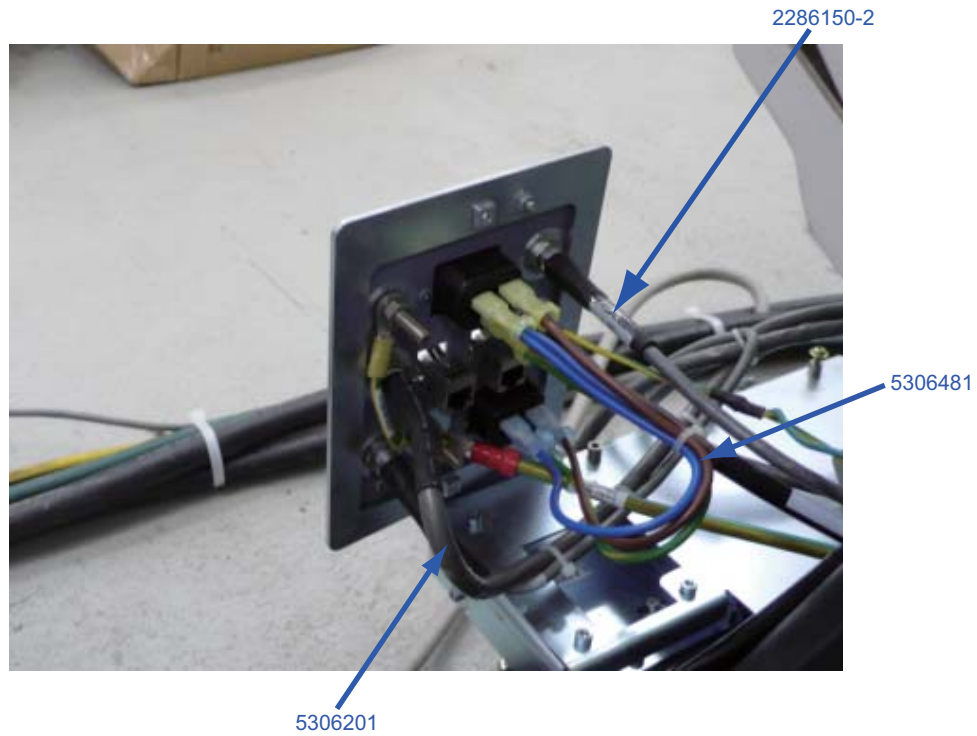

Figure 1-10 Left Panel Connection
4.) Connect cables 2286150-2, 5306481 and 5306201 to Left Panel, as shown in Figure 1-10.